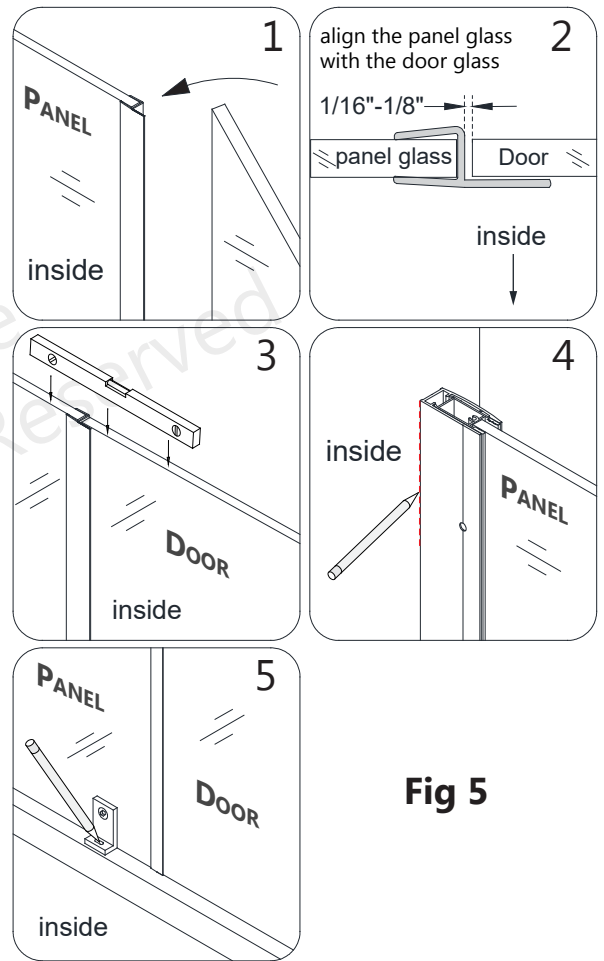

Fig 5
- Mark the drilling hole onto the threshold through the hole in the **Bottom Bracket (#18)**. (**Fig. 5**)